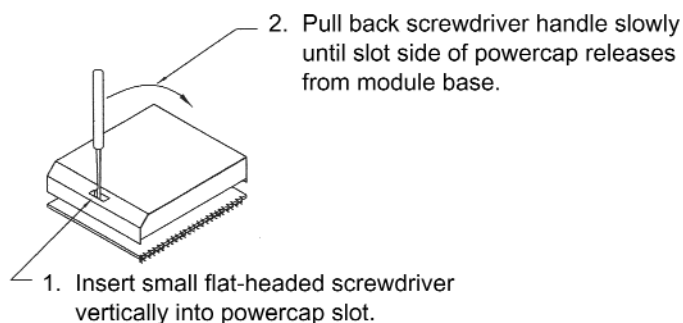

Figure 1
5. Once you have located the NVRAM chip, locate the small notch and insert the small screwdriver, as described in figure 1.